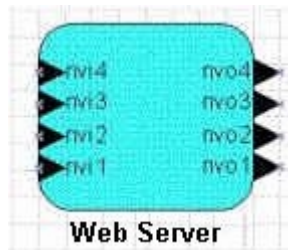

Figure 9-8 - Web Server’s Virtual Functional Block
17. Once you’ve created all your network variables, verify that your virtual functional block resembles Figure 9-8.